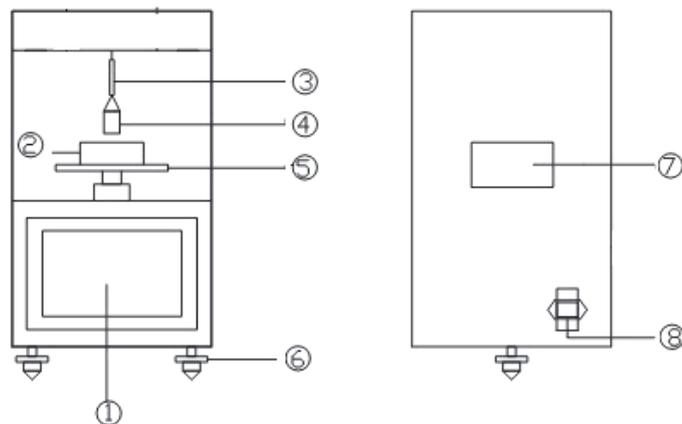

Figure 1
4、 Structural features (Figure 1)